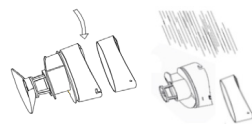

Fig.12
4. Clean or wash, and dry the filter (replace it when necessary). Then assemble them in the reverse sequence of disassembly. (Fig. 12)